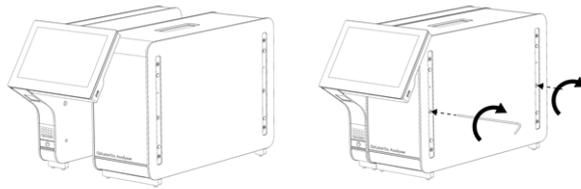

Figure 6. Attaching the Operational Module to the Analytical Module.
3. Remove the Operational Module from its box and attach it to the left side of the Analytical Module. Tighten the screws using the Analytical-Operational Module Assembly Tool delivered with the QIAstat-Dx Analyzer 2.0 (Figure 6 on the next page).